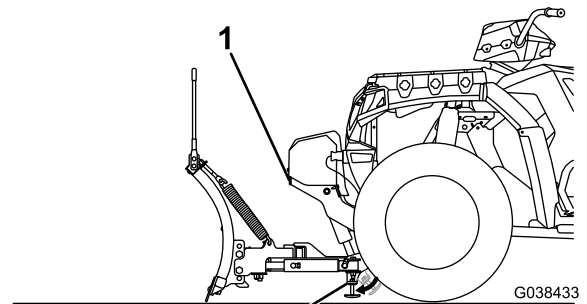

Figure 20
2. Pull the kickstand handle outward and lower the kickstand (Figure 20).